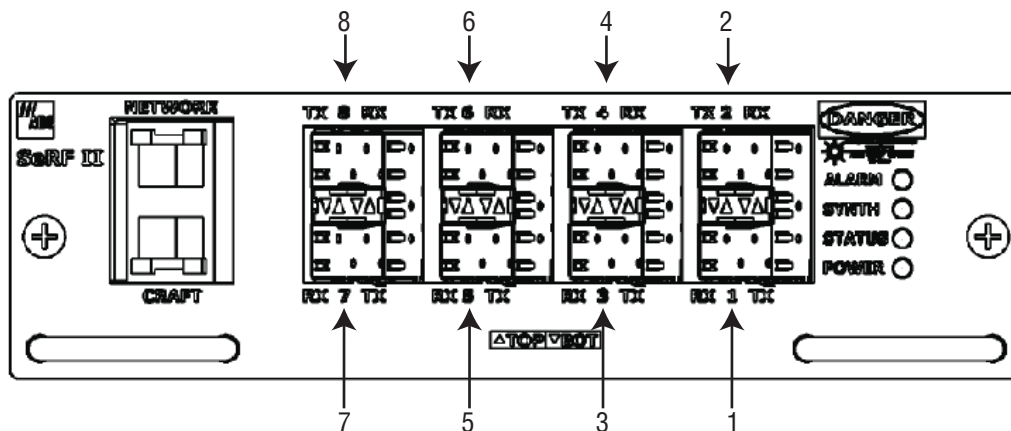

Figure 30. Host SeRF Optical Port Assignments
- 5 fwuModuleNumber, as shown in Figure 30